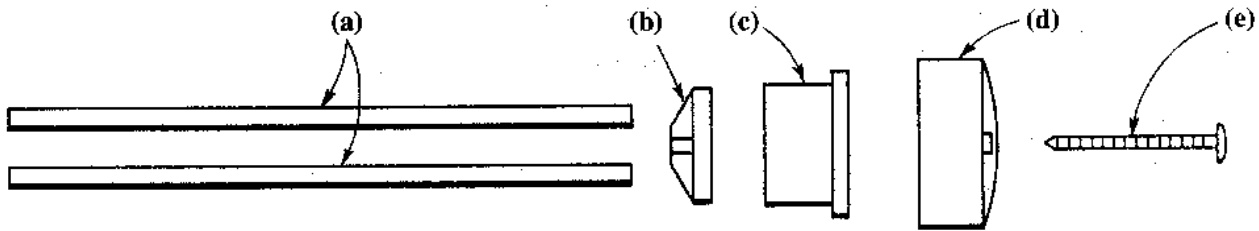

fig. 1
STEP 1 Assemble the stopper (fig. 1) by first pushing the long brass tubes (a) through the stopper (c). (The third hole is for an optional pressure fitting or spare fill/vent line, not required for normal operation). Do not tighten the screw (e). Assemble klapper klunk if needed (fig. 2). Attach flexible tubing (h) to outlet tube (g); cut to proper length for klunk (f) to move freely at back of tank.